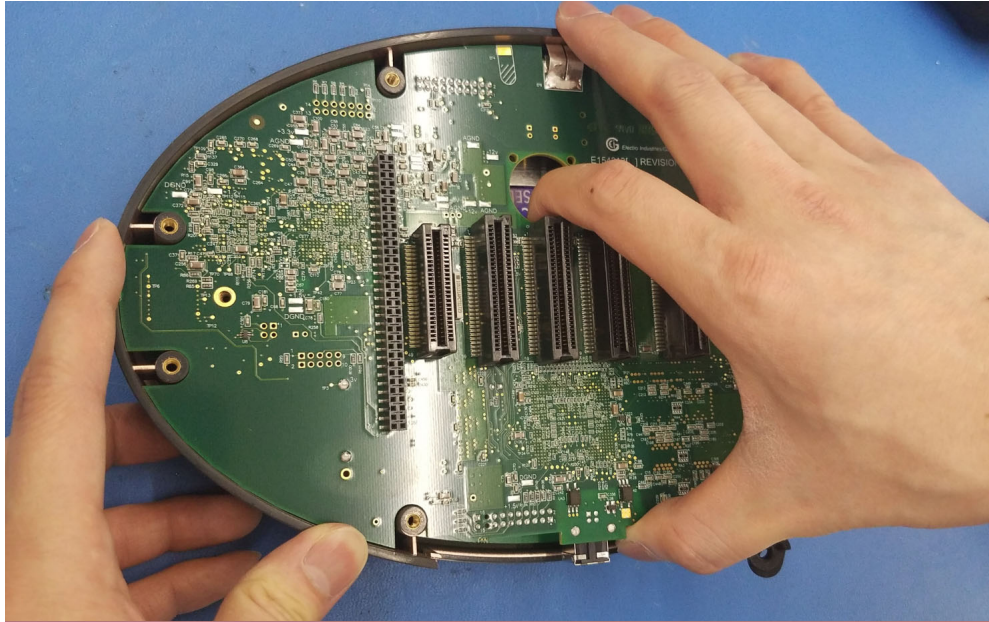

Figure 3-11: Holding the Front Panel and Digital Board
6. With one hand on the front panel and the other on the digital board, carefully separate the front panel from the digital board. See Figures 3-11 and 3-12.